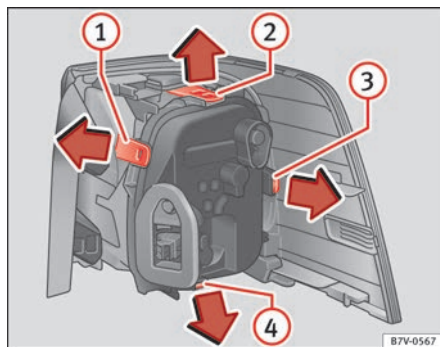

Fig. 212 Tail lights on bodywork: To remove the lamp holder. ① to ④: Attachment tab.
9.	To release the lamp holder, press on the attachment tabs ⇒ fig. 212 ① to ④ in the direction of the arrow.